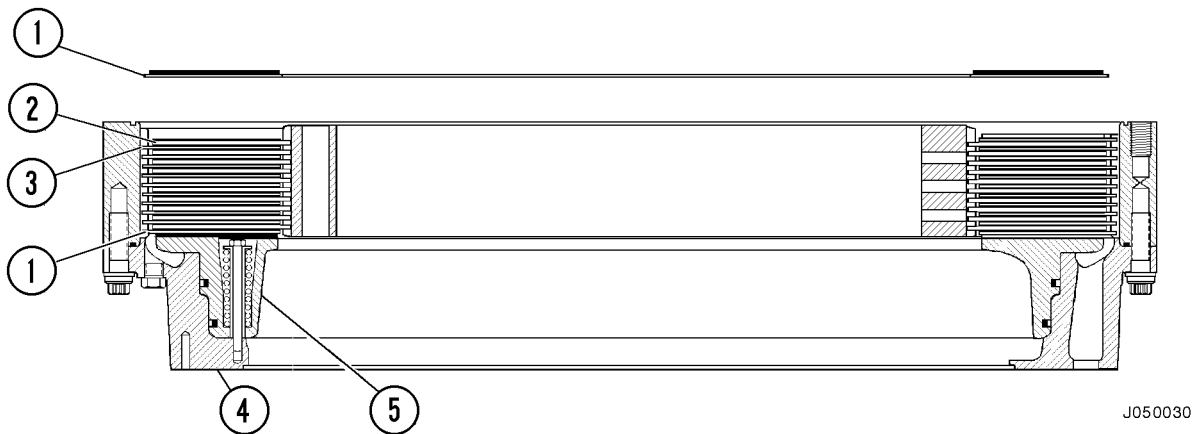

FIGURE 5-10. DISC PACK INSTALLATION
- Insert damper disc (1, Figure 5-10) into the ring gear and inner gear with the friction material (down) facing piston (5).
- Insert friction disc (2) on top of the damper.
- Install a separator plate (3).